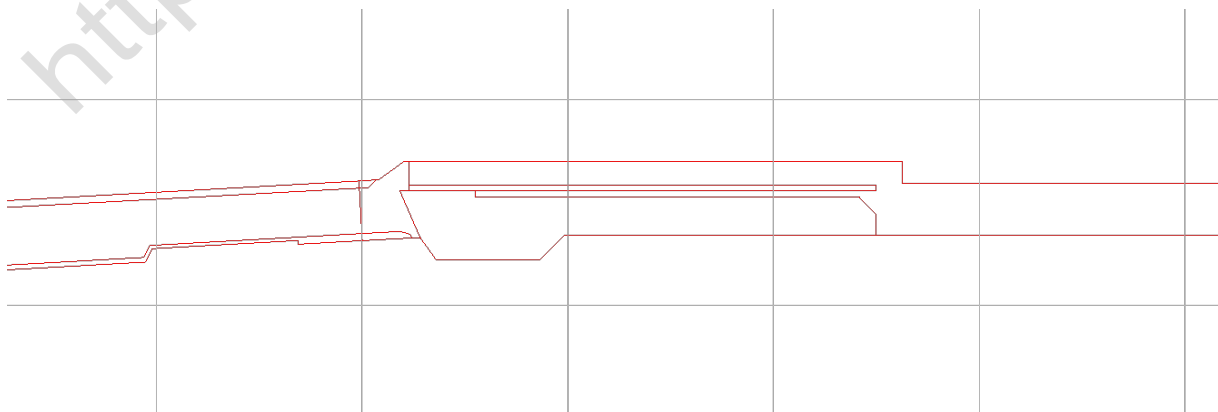

Figure 12: Final result of the different roughness areas.
3. Assign a name to the area and the correct roughness value, then click OK. Figure 12 shows an example of a final result.